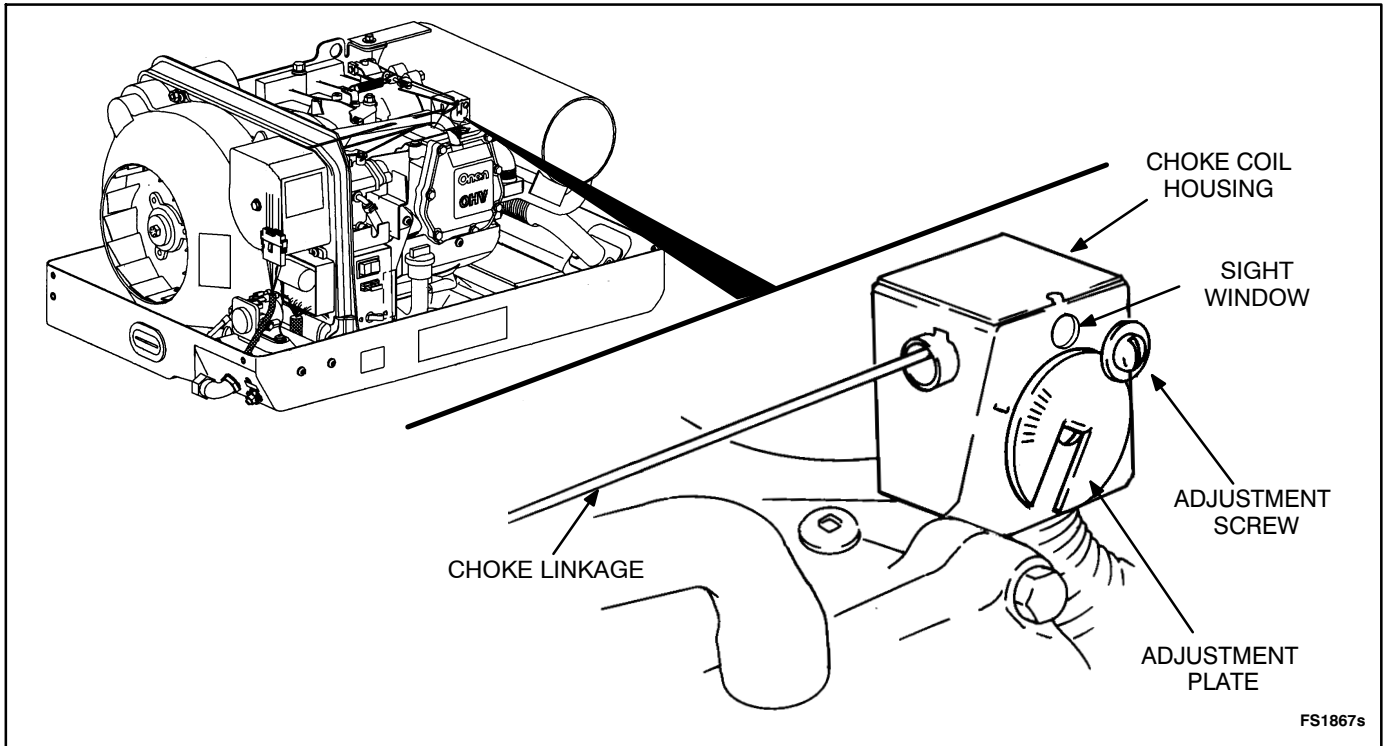

FIGURE 8-15. CHOKE ASSEMBLY
**Choke Adjustment:** Check the choke linkage to make sure it is not bent or rubbing. Rotate the choke lever on the carburetor. The choke shaft should move freely and it should return to its original position when released. Inspect the heater hose to make sure it is installed properly and in good condition. Refer to Figure 8-15 on Page 8-19.
**Bimetal Coil Replacement:** After making the choke adjustment, start the generator set and observe engine operation. If the choke does not open properly, replace the bimetal coil in the choke housing as follows. Refer to Figure 8-15.